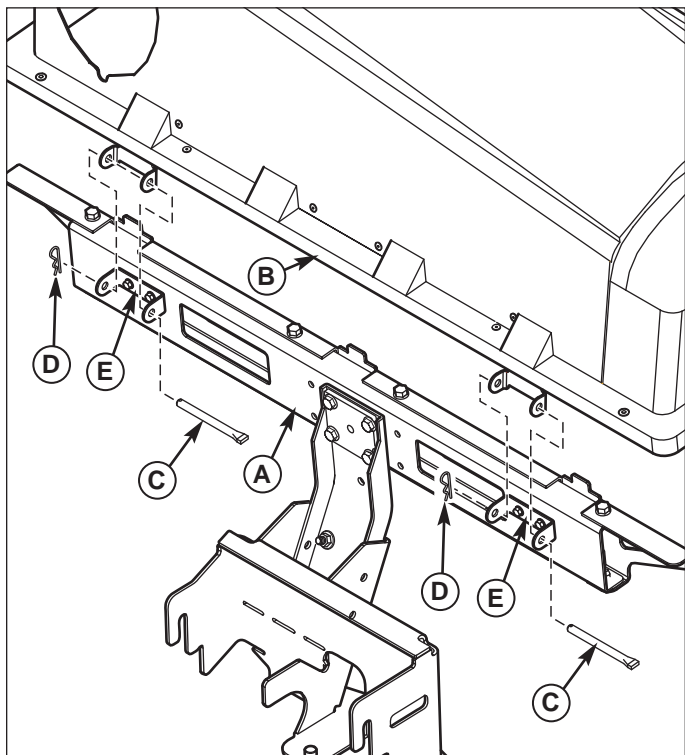

Figure 10. Install Cover Assembly
1. Attach cover assembly (B, Figure 10) to bag support bracket (A) using hinge pivots (E). Secure cover using cover hinge pins (C) and hair pins (D) as shown.